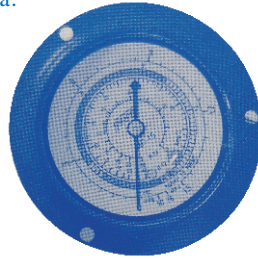
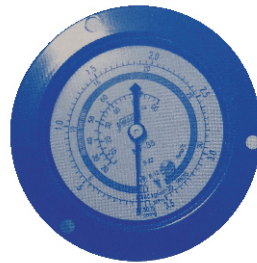

Figure 1
Figure 2
For example, the figure in Figure 1 is 0.01 Mpa and Figure 2 is 0.01 Mpa.
2. Or read the figure next to the outer circle, and the unit is Kg/cm². The figure in Figure 1 is 0 Kg/cm², Figure 2 is 0.1 Kg/cm².